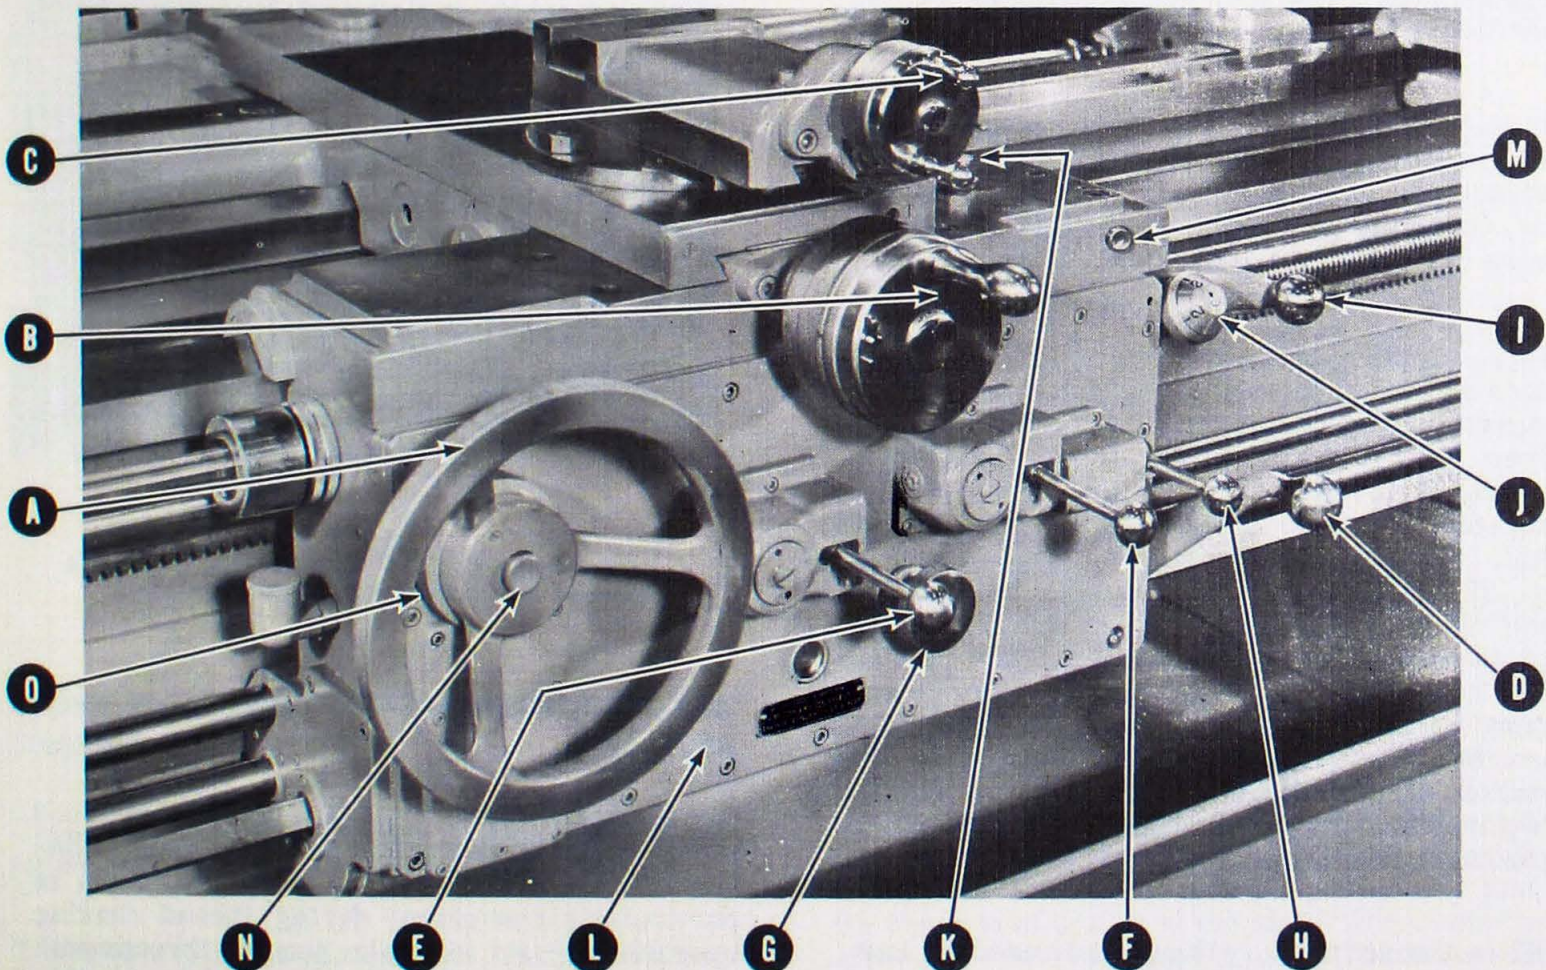
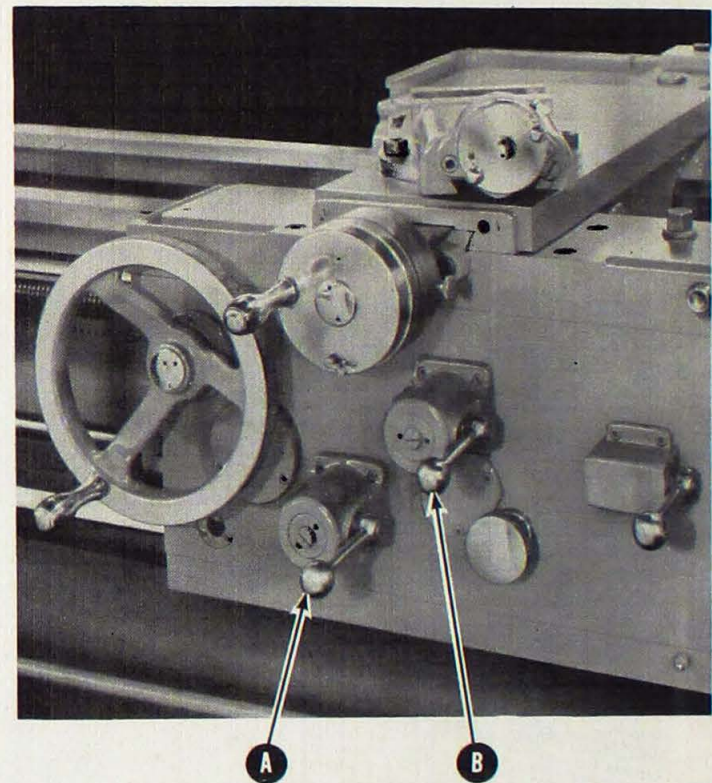

FIGURE 5 — Front of Apron, Equipped with Power Rapid Traverse
FIGURE 6
Figure 5 indicates the functions of the various controls provided to impart the necessary movements to the cutting tool. (A), the apron handwheel, moves the cutting tool manually, parallel to the bed. Cross slide handwheel, (B), moves the tool manually, at a right angle to the bed. Compound rest handwheel (C) moves the tool manually, at any angle to the bed.
The plain apron without power rapid traverse (Figure 6) is similar to the one shown in Figure 5. However, levers (A) and (B) give only power feed, and no direct length reading dial is provided as standard.
Leadscrew reverse lever (I) Figure 5, is found on the apron on Toolmaker's models only. Control of leadscrew reverse from the apron is particularly convenient during thread chasing operations -- for example, chasing threads with odd leads where the half nut should not be disengaged; speed chasing of short threads, and,